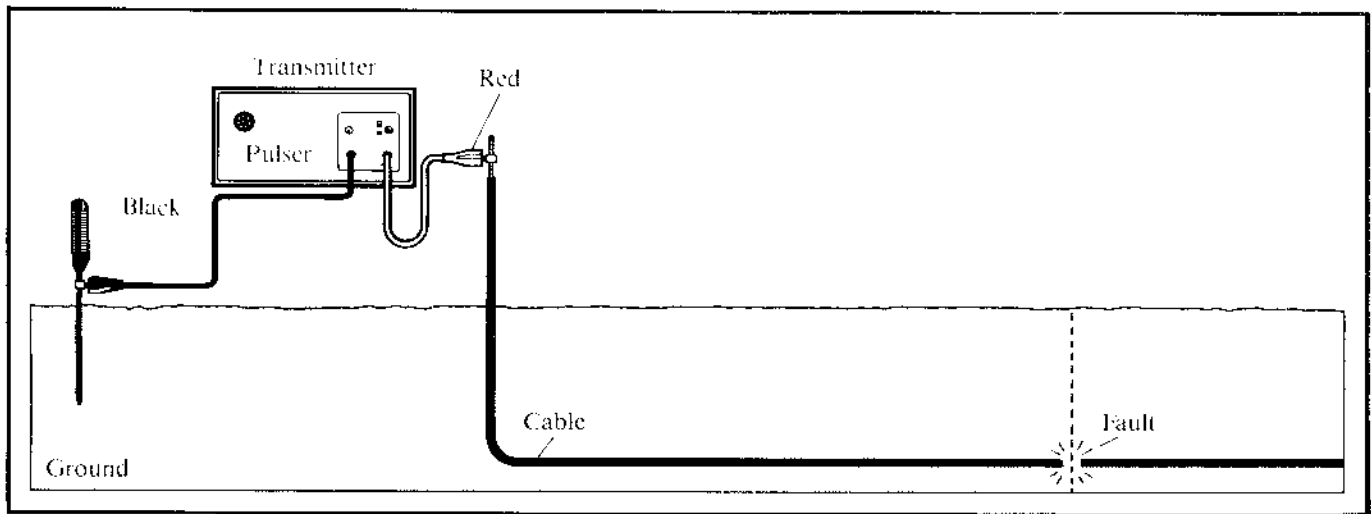

Figure 2 Transmitter Set Up
3.02 With the transmitter off, connect the clip of the black transmitter lead to the ground probe. Insert the ground probe deeply into the earth. (See Figure 2)